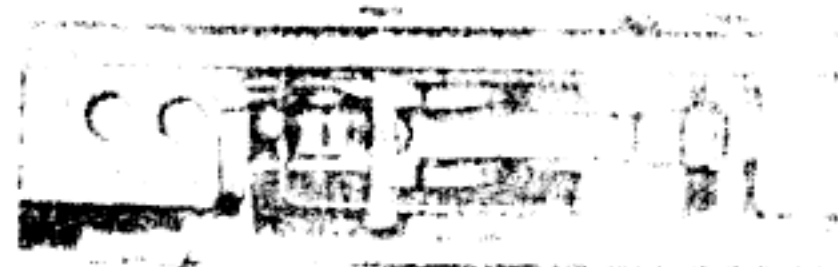

Figure 42. Selector of rifle with stamped receiver.
In rifles with stamped receiver, the selector (fig. 42) has a lever (1) with lug (1a). An indicator (2) is attached to the lever.